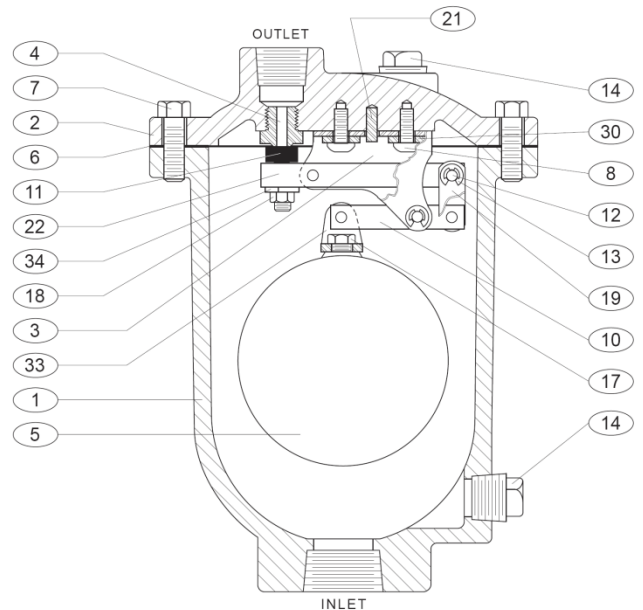

Figure 6. Air Release Valve Assembly
The lever mechanism provides mechanical advantage for the float. During system operation, the pipeline pressure exerts a strong upward force on the sealing component, the orifice button. The lever mechanism magnifies the weight of the float so that the orifice will open under high pipeline pressures. Additional ports are provided for flushing, testing and draining purposes. The general details of construction are illustrated in Figure 6. The body (1) is threaded for connection to the pipeline. The seat (4) is threaded into the cast cover (2).